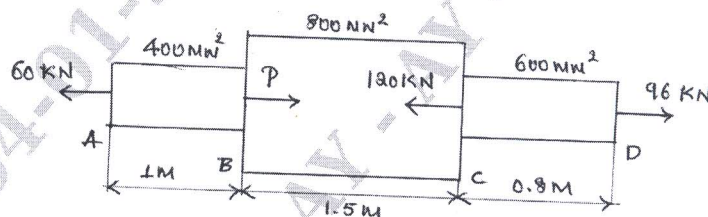

Fig. Q1 (b)
- b. A steel bar ABCD of varying sections is subjected to the axial forces as shown in Fig. Q1 (b). (i) Find the value of P necessary for equilibrium. If $E = 210 \text{ kN/mm}^2$ determine (i) Stress in various segments (ii) Total Elongation of bar (iii) Total strain in the bar. (10 Marks)